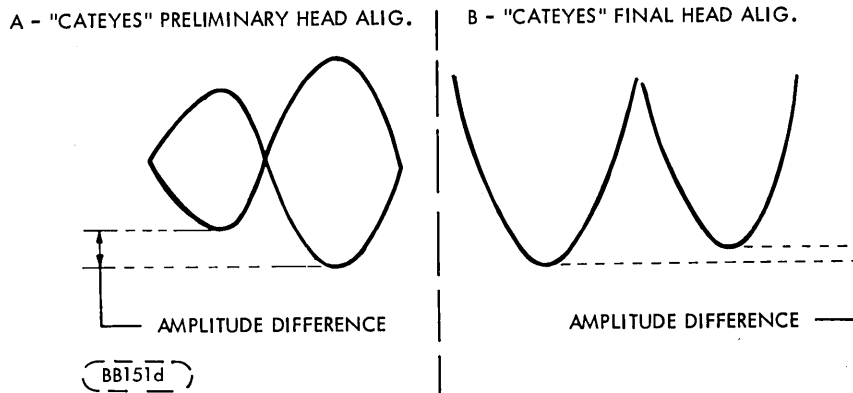

Figure 6-8. Head Alignment Amplitude
Scope trace after trigger level is adjusted for repetitive trace should display an envelope of data "Cateyes" consisting of two lobes (refer to Figure 6-8 A). If no such pattern can be displayed, manually turn the stepper motor shaft extending from the rear of the stepper motor one-quarter turn either way to locate pattern. Then proceed to step "h".
- g. Change the volts/div of Channel 1 and Channel 2 to 0.02 volts/div. Move the trace on the scope (Position Knob) up until the bottom of the two lobes are setting approximately on the base line (refer to Figure 6-8 B). For an acceptably aligned unit, the voltage ratio of the smaller lobe to the larger lobe should exceed 80%.